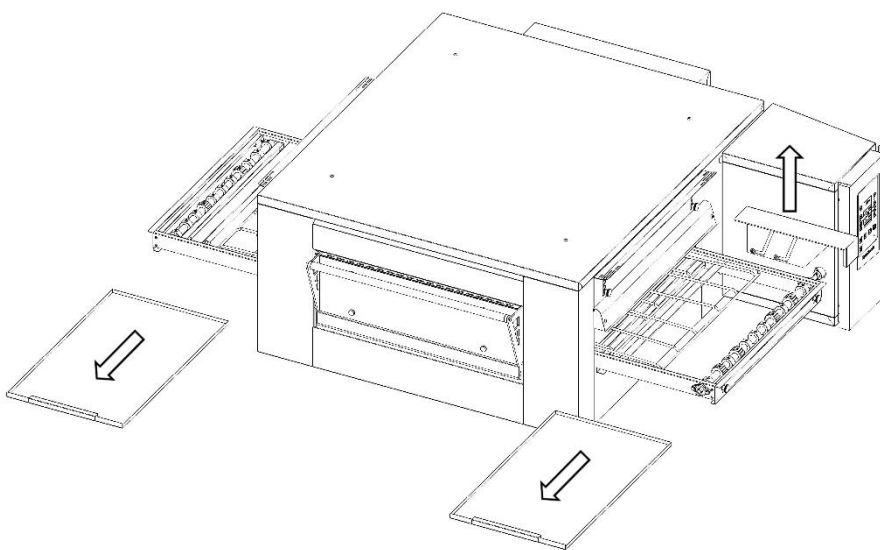

Fig.1A
2. Remove the drawers at the entrance and exit of the wire mesh conveyor belt (see Fig.1A paragraph 9.3.1).
3. Remove the casing covering the conveyor belt transmission joint freeing it from its attachment with an upward movement (see Fig.1A paragraph 9.3.1).
2. Remove the drawers at the entrance and exit of the wire mesh conveyor belt (Fig.1A).
3. Lift up the casing joint moving it upwards (Fig.1A).